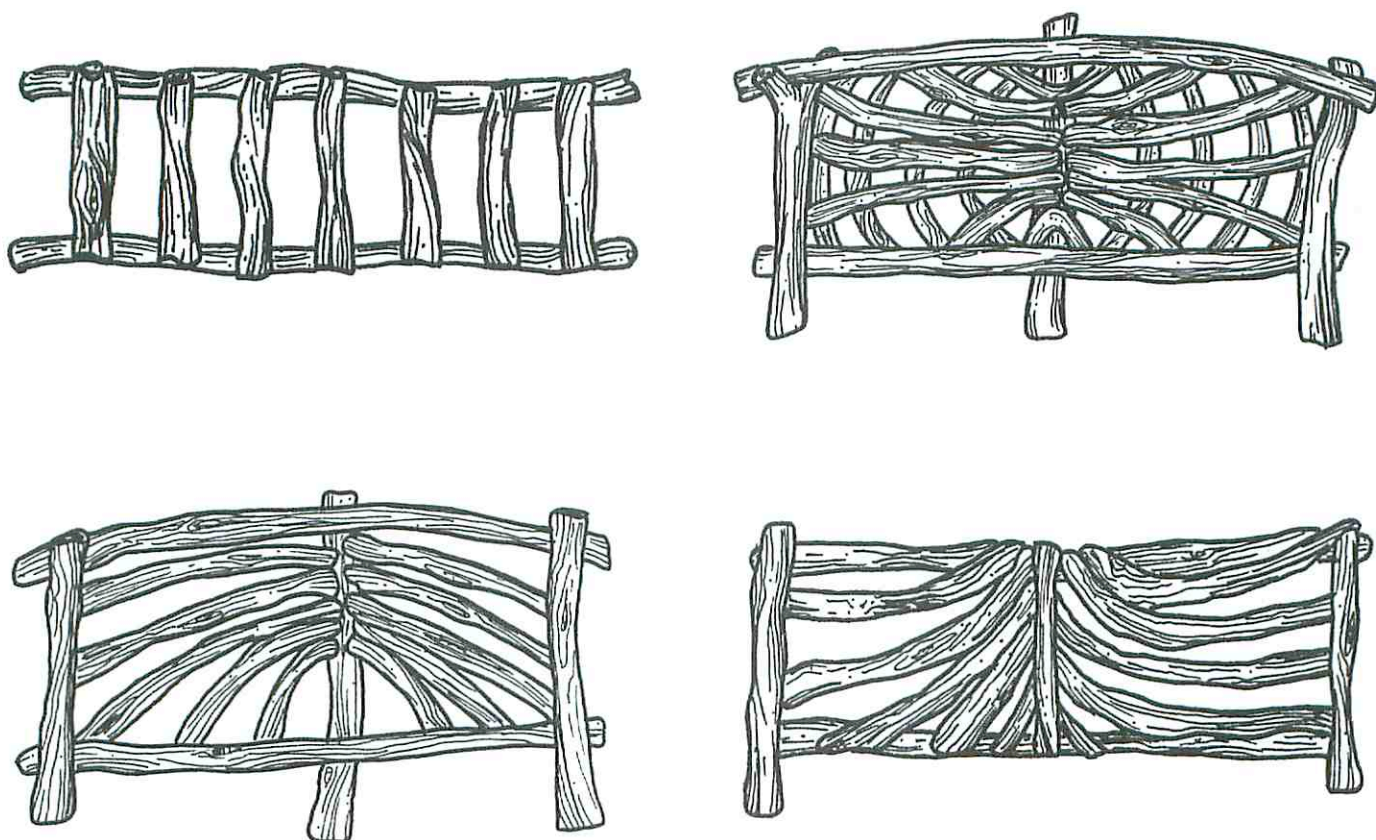

Figure 5
If you haven't decided on what kind of back you want, there's no time like the present! Look at Fig. 5 for some ideas. Attach the back pieces (I) to the back support and rear seat rail according to your design. Remember, if you are using straight, vertical pieces, the back will have to be braced, but if you choose a fan or sunray design, then you won't require any further bracing. Next, attach the seat pieces (J) to the front and rear